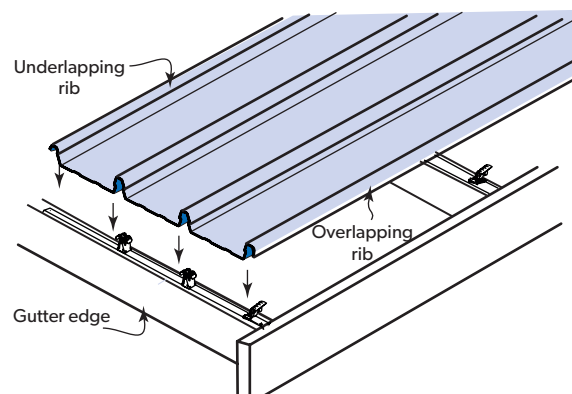

Figure 9.1.10b
9. Fix the initial overlapping rib of the first sheet using an 'S' clip. (See Figure 9.1.10b).